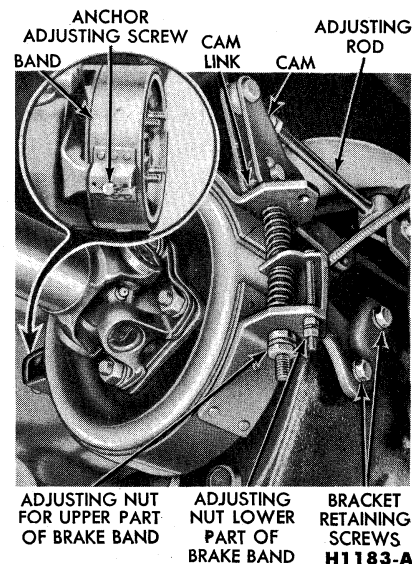

FIG. 6—Typical Band Type Parking Brake
The band type parking brake consists of a brake drum bolted to the transmission main shaft companion flange, and an external contracting type band mounted on the rear of the transmission (Fig. 6).
1. On cable-controlled parking brakes (Fig. 6), move the parking brake lever to the fully released position. On a truck with a rod-type linkage, set the lever at the first notch.
2. Check the position of the cam to make sure the flat portion is resting on the brake band bracket. If the cam is not flat with the bracket, remove the clevis pin from the upper part of the cam, and adjust the clevis rod to allow the flat portion of the cam to rest on the brake band bracket. Install the clevis pin and cotter pin (Fig. 6).
4. Loosen the lock nut on the adjusting screw for the lower half of the brake band, and adjust the screw to establish a 0.010 inch clearance between the lining and the brake drum at the lower half of the brake band (Fig. 6). Tighten the lock nut.
1. Shift the transmission into low gear and disconnect the drive shaft companion flange from the transmission output shaft flange by removing the four nuts (Fig. 6).